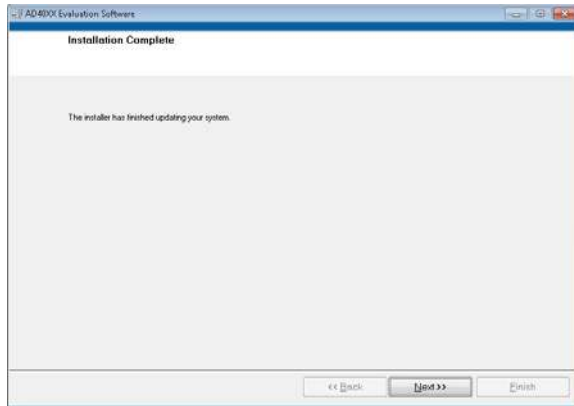

Figure 8. AD4020 Reference Design Software Installation Complete
- After the installation progress reaches 100%, click **Next>>** to complete the installation (see Figure 8).
- After the AD4020 reference design software installation is complete, click **Next>>**, as shown in Figure 8. This command starts the SDP-H1 driver installation, as shown in Figure 9.